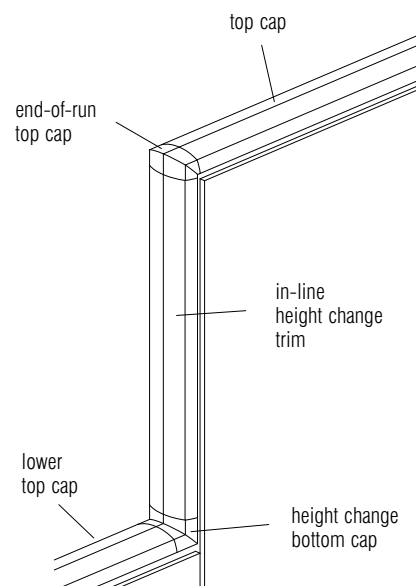

Figure 81
2. Snap the in-line height change trim into place over the full post. **Figure 81.**